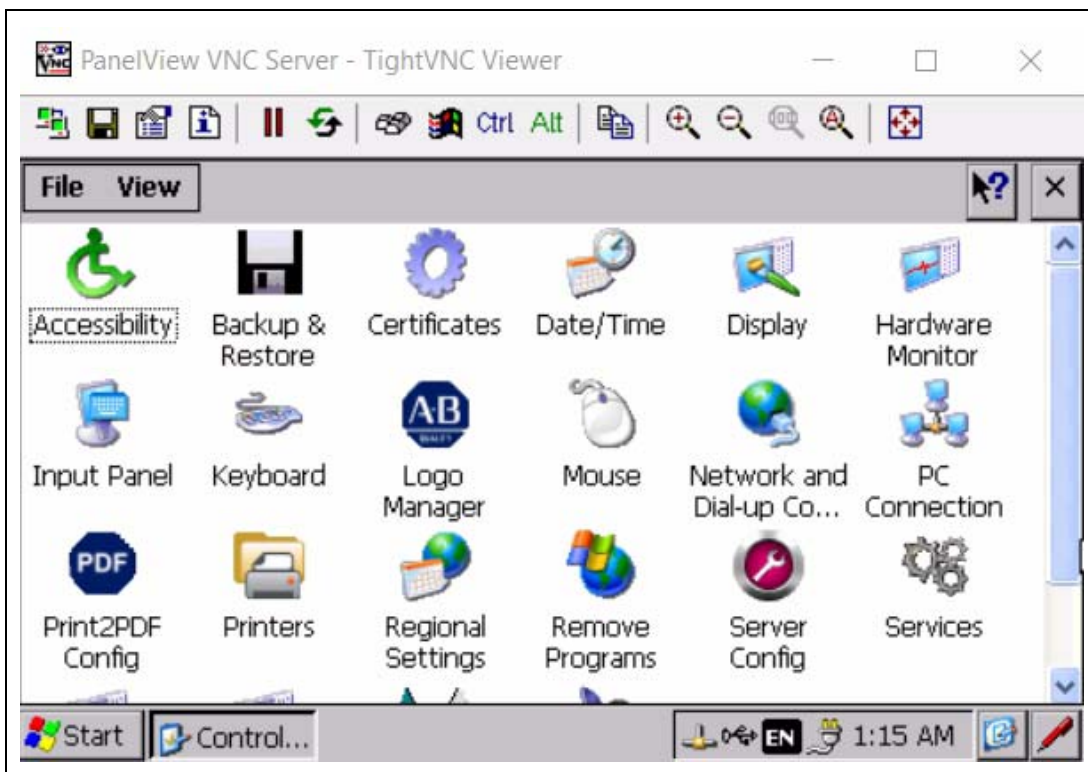

Figure 3I
6. You should be at the screen below. (See Figure 3I.)